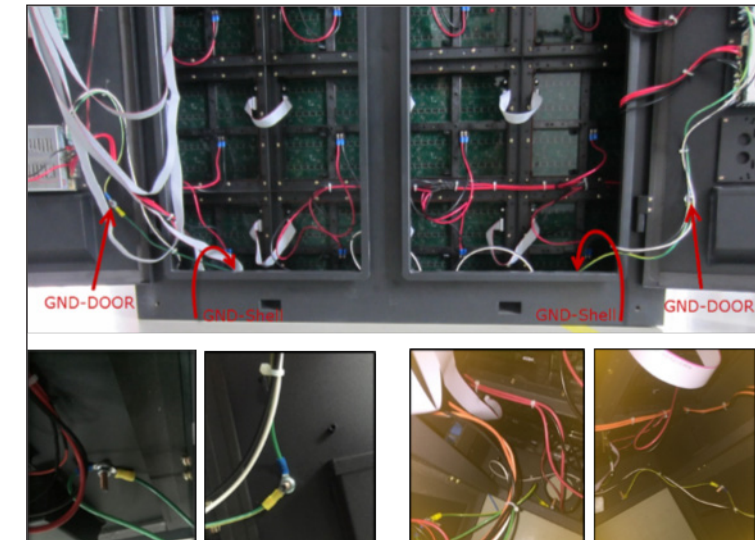

Figure 18: Ground Door (On the Door) and Ground Shell (On the Shell)
- Two of the grounds are on the door and the other two are inside the shell bottom perimeter. Refer to Figure 18 for ground details.